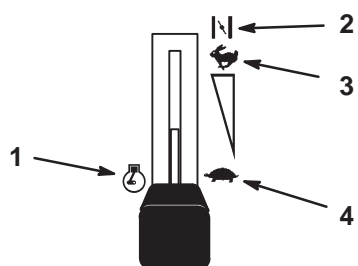

Figure 6
6. After the engine starts, move the throttle lever to Fast (Fig. 6). If the engine stalls or hesitates, move the throttle lever back to Choke for a few seconds. Then move the throttle lever to the desired setting. Repeat this as required.
1. Move the throttle lever between Slow and Fast (Fig. 6).